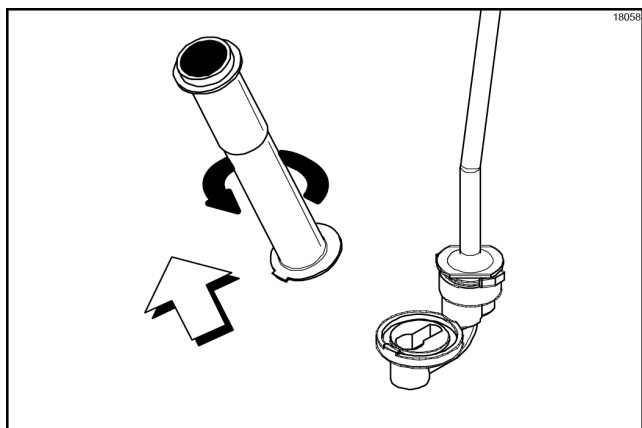

Figure-79
11. Remove the cylinder from the valve body by turning it counterclockwise (See Figure-79.)